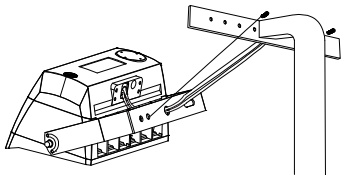

Figure 12
**3. Flood Mounting (FM)**
STEP 1: Drill holes on the wall as shown. (FIGURE 12)